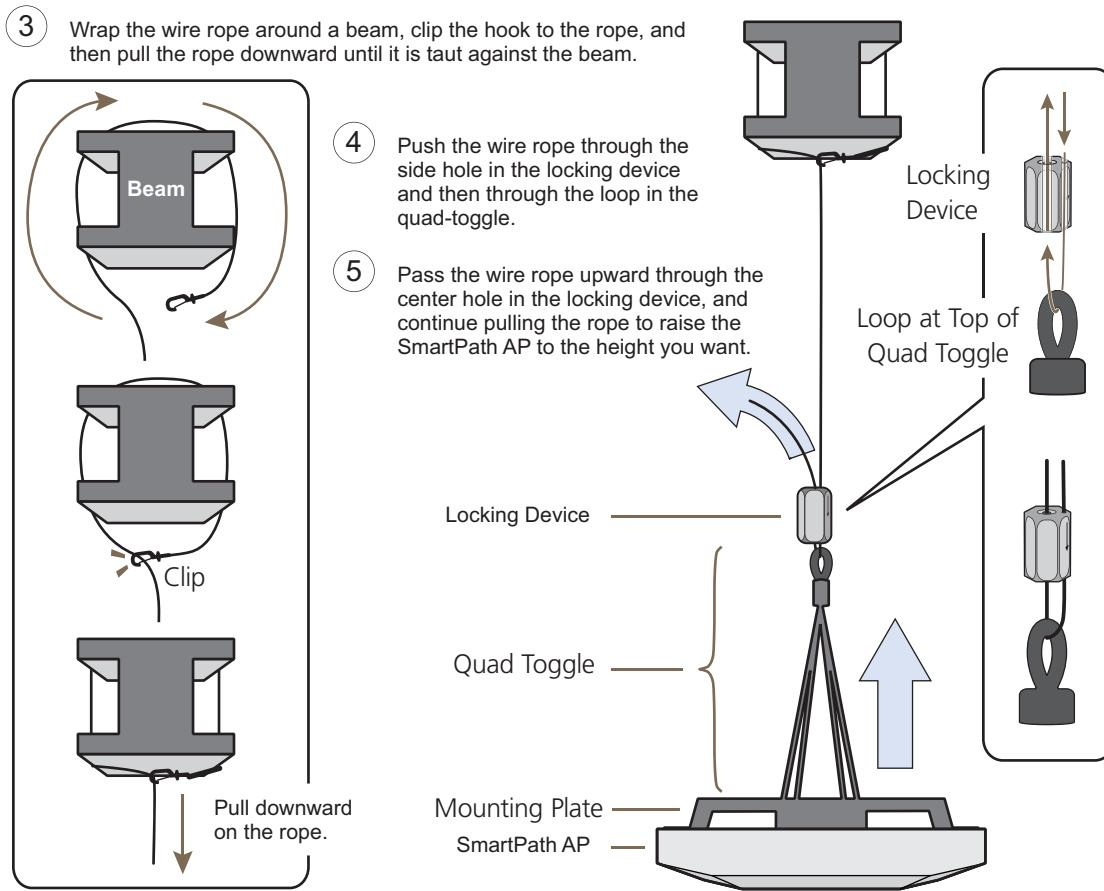

Figure 3-20. Suspending the SmartPath AP.
- Insert the wire rope back through the center hole in the locking device, and then continue pulling it through the locking device until the SmartPath AP is suspended at the height you want (see Figure 3-20).